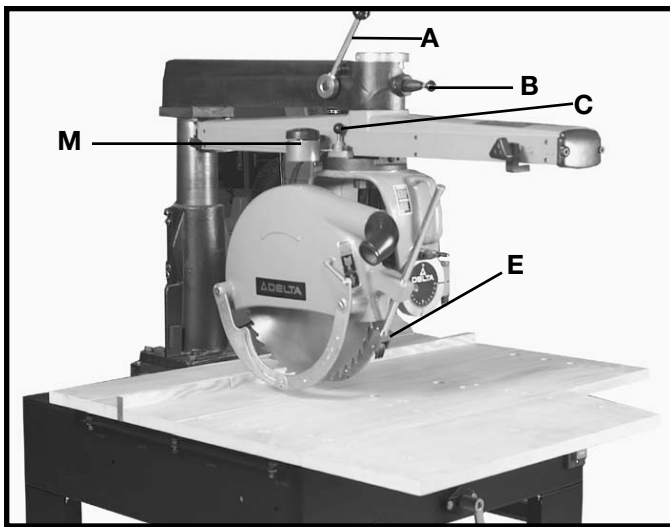

Fig. 4
A - TRACK-ARM CLAMP HANDLE Fig. 4. Controls swing of track-arm for all miter cutting operations. Locks track-arm at any angle for the full 180° rotation. To rotate track-arm, loosen clamp handle and rotate arm. The arm will stop at the 0° and 45° positions right and left. To move the arm past these points the track-arm index knob (B) must be pulled out.
B - TRACK-ARM INDEX KNOB Fig. 4. Locates 0° and 45° miter position, right and left, of the track-arm
C - YOKE INDEX KNOB Fig. 4. Locates each 90° position of the yoke for ripping or cross-cutting operations. When rotating the yoke, the yoke clamp handle (D) must first be loose.
E - ANTI-KICKBACK DEVICE Fig. 4. When ripping, the yoke is positioned and clamped so that the blade is parallel to the fence. The rear of the blade guard is lowered until it almost touches the workpiece. The anti-kickback rod is then lowered so that the fingers catch and hold the workpiece. Never rip from the anti-kickback end of the blade guard.
M - CUTTINGHEAD RETURN ATTACHMENT Fig. 4. Automatically returns the cuttinghead to the rear of the track-arm after completion of the cut.